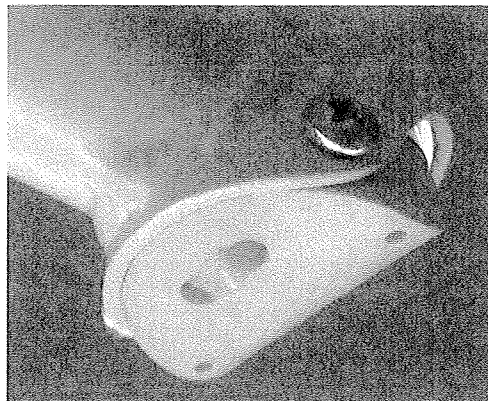

Figure 15: Electrical Harness
2. Remove the right hand electrical connector by unscrewing the two screws and placing them aside. Slide out the electrical connector from the tube and allow it to hang off to the side. Refer to Figures 15 and 16 below.